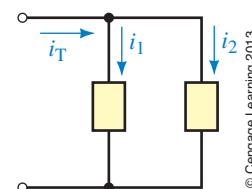

FIGURE 16-50
13. For Figure 16-50, $i_1 = 25 \sin(\omega t + 36^\circ)$ mA and $i_2 = 40 \cos(\omega t - 10^\circ)$ mA.
14. For Figure 16-50, $i_T = 50 \sin(\omega t + 60^\circ)$ A and $i_2 = 20 \sin(\omega t - 30^\circ)$ A.